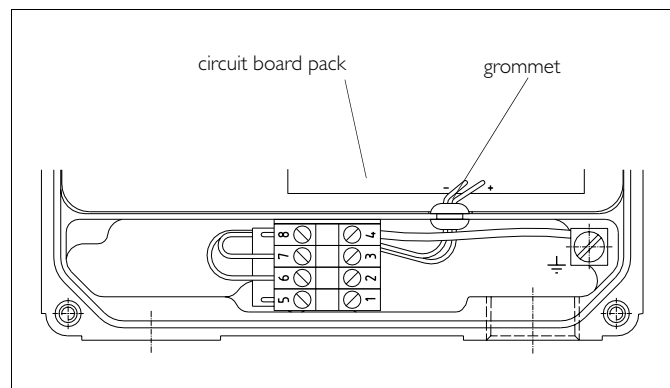

Fig. 14. Circuit board pack
- Tighten the M3 screws (111) evenly.
- Push the rubber grommet into the slot located on the intermediate wall of the body and connect the wires to the terminal block as shown in Fig. 14. Plug the prestage wire connectors into the board making sure that the wires do not cross each other. Plug the position sensor (6) wire connector into the board.
- Mount the protective cover (46).
- Mount the position indicator (65) on the shaft and tighten the M8 screw (66) temporarily. The final locking of the position indicator occurs when the actuator is installed.